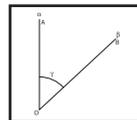

Fig.8
- Align the vertical hair with Point A - see Fig 8